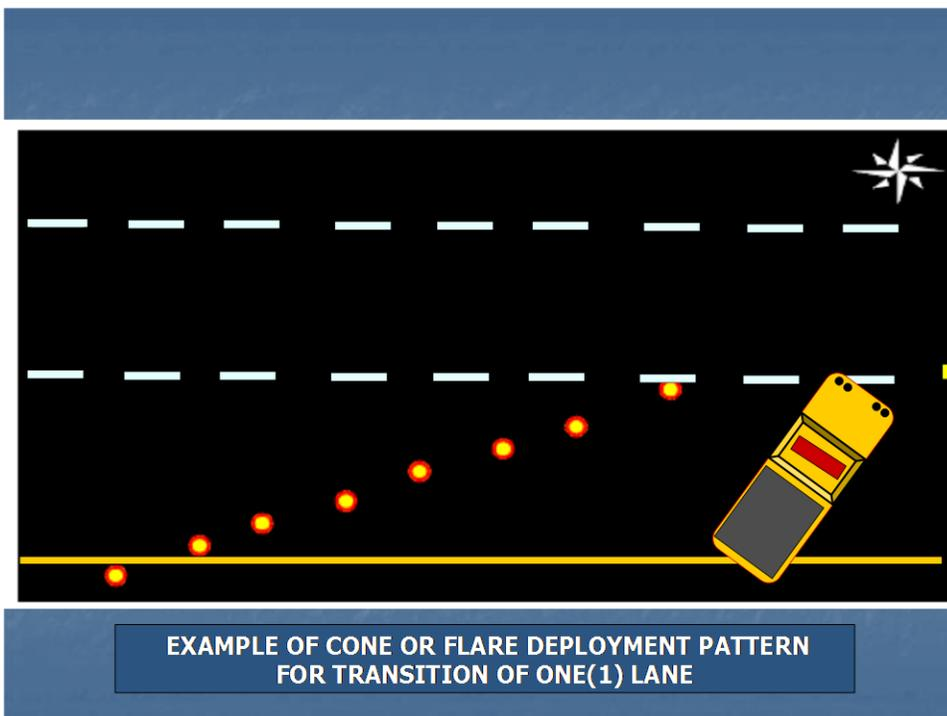

Fig. 1.1
- Member shall immediately return back to the shoulder or median safe area and move an additional ten (10) paces along the safe area back towards the incident scene. This procedure should be followed until all traffic control devices have been placed. The final device shall be near the rear of the apparatus that is in the blocking position at the incident scene. (see Fig. 1.1 )
- If a retro-reflective, pink deployable sign is used by the fire department to comply with NFPA 1500 Standard; this sign shall be carried in the folded condition upstream along the safe area (shoulder or median) and deployed along the shoulder or median at a location ten (10) additional paces further upstream of the initial cone or flare already deployed.